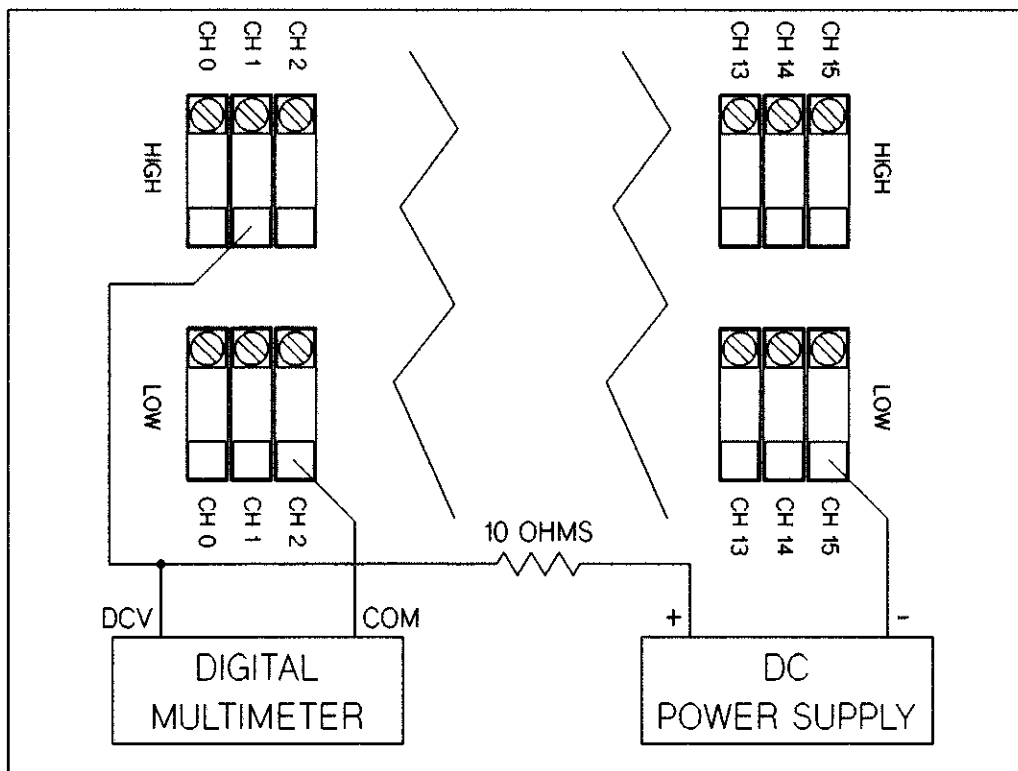

Figure 13-10 Odd Channel Sink Current Test
16. Connect the COM (LO) input of the multimeter to the shorted LOW connections on the test fixture. the connections are shown in Figure 13-10.